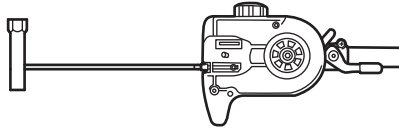

Fig. 21
6). Ensure that the tension pin (11) is adjusted to its far right position before assembly the checked or the new chain and guide bar. If not, turn the tension screw (12) anticlockwise with the slotted screwdriver. (See Fig. 21)